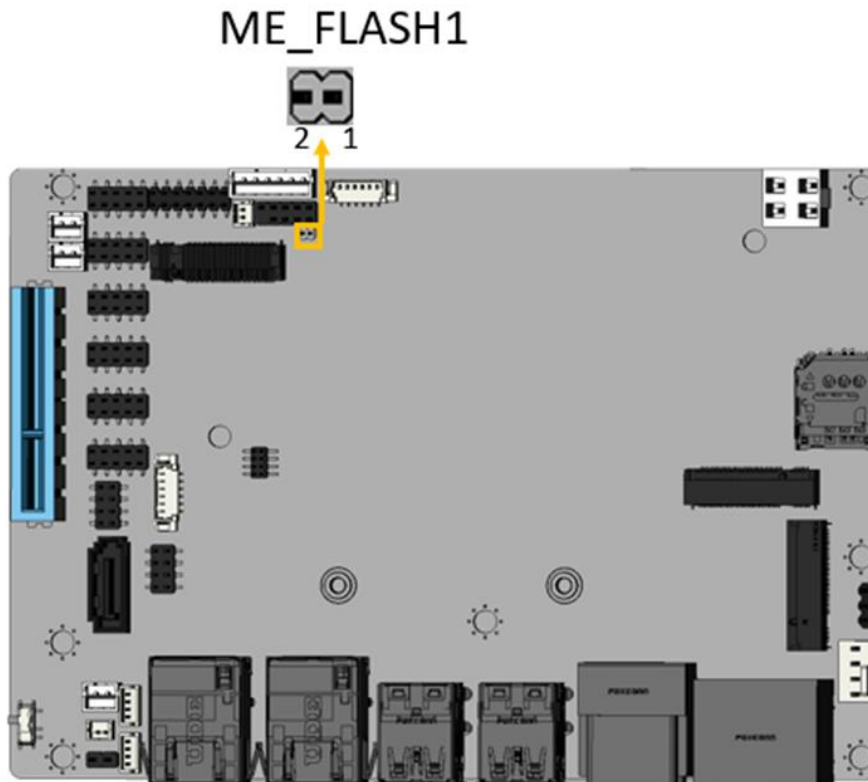

Figure 3-5: Flash Descriptor Security Override Jumper Location
- CN Location:** See Figure 3-5